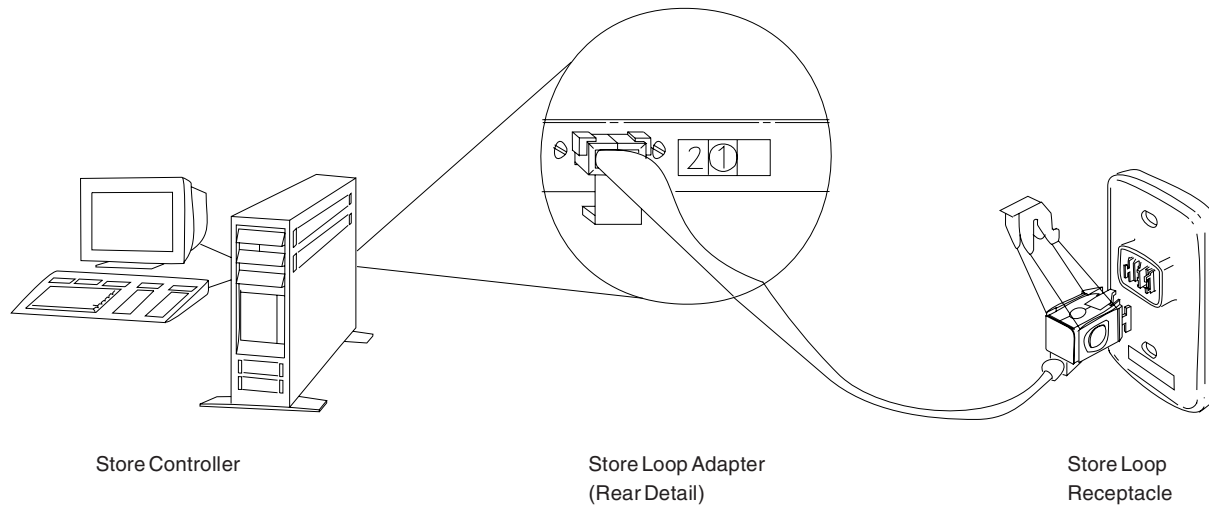
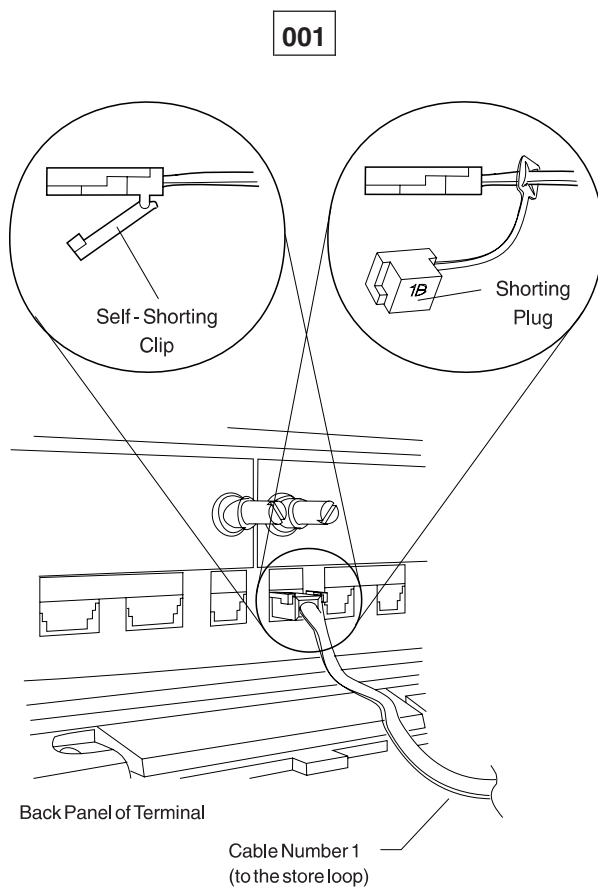

Figure 30. Store Controller Store Loop Adapter and Store Loop Receptacle
Figure 31. Mod1 Terminal Store Loop Cable 1 and Shorting Plug 1B
- Ensure the store loop cable is plugged into the loop cable socket on the Mod1 terminal displaying message W001 and that the other end of the cable is plugged into the store loop receptacle. See Figure 30 on page 485 and Figure 31 on page 485.
- Disconnect the primary store controller from the store loop by unplugging its store loop cable from the store loop receptacle. See Figure 30 on page 485.
- Disconnect the backup store controller from the store loop by unplugging its store loop cable from the store loop receptacle. See Figure 30 on page 485.
- Disconnect this Mod1 terminal from the store loop by unplugging its store loop cable from the store loop receptacle. See Figure 30 on page 485.
Is the store loop cable plugged into the store loop adapter on the active store controller? See Figure 30 on page 485.